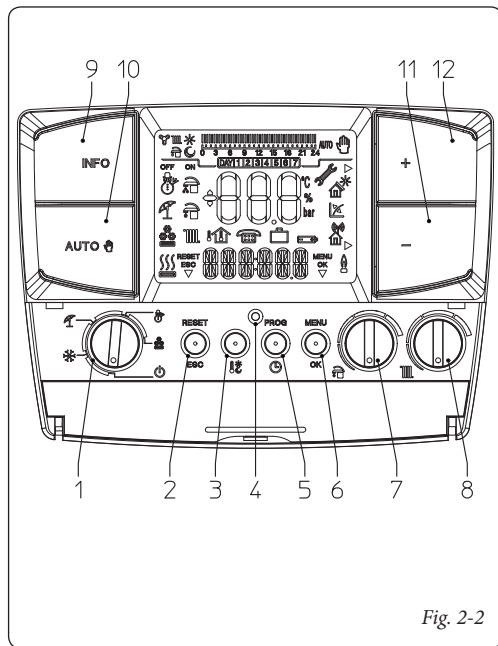

Fig. 2-2
RESET ESC 	description of functioning of the button (2 Fig. 2-2) - Reset, or esc
indicates that it is possible to modify a parameter via the two buttons (11 and 12 Fig. 2-2)
description of functioning of the button (6 Fig. 2-2) - Menu or Ok
By turning the main selector (ref. 1 Fig. 2-2) the following functions can be selected: Stand-by/Anti-freeze, Summer, Winter, Cooling.